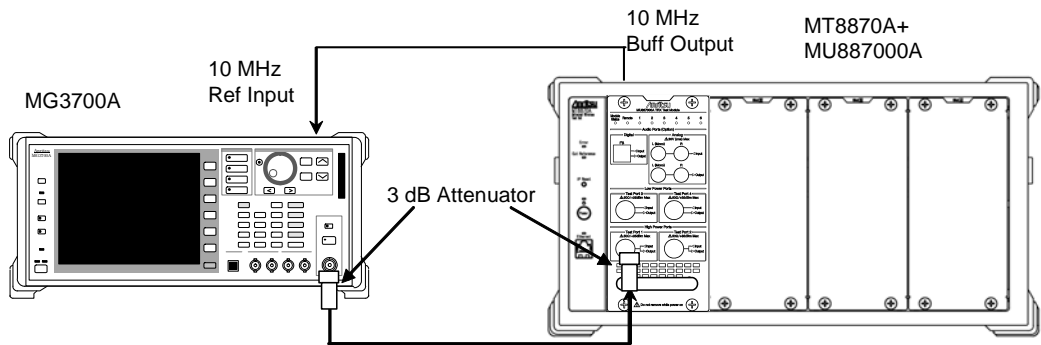

Figure 5.3.4-1 Setup for Measuring Adjacent Channel Leakage Power Ratio
1. Setup the instruments as shown in Figure 5.3.4-1.